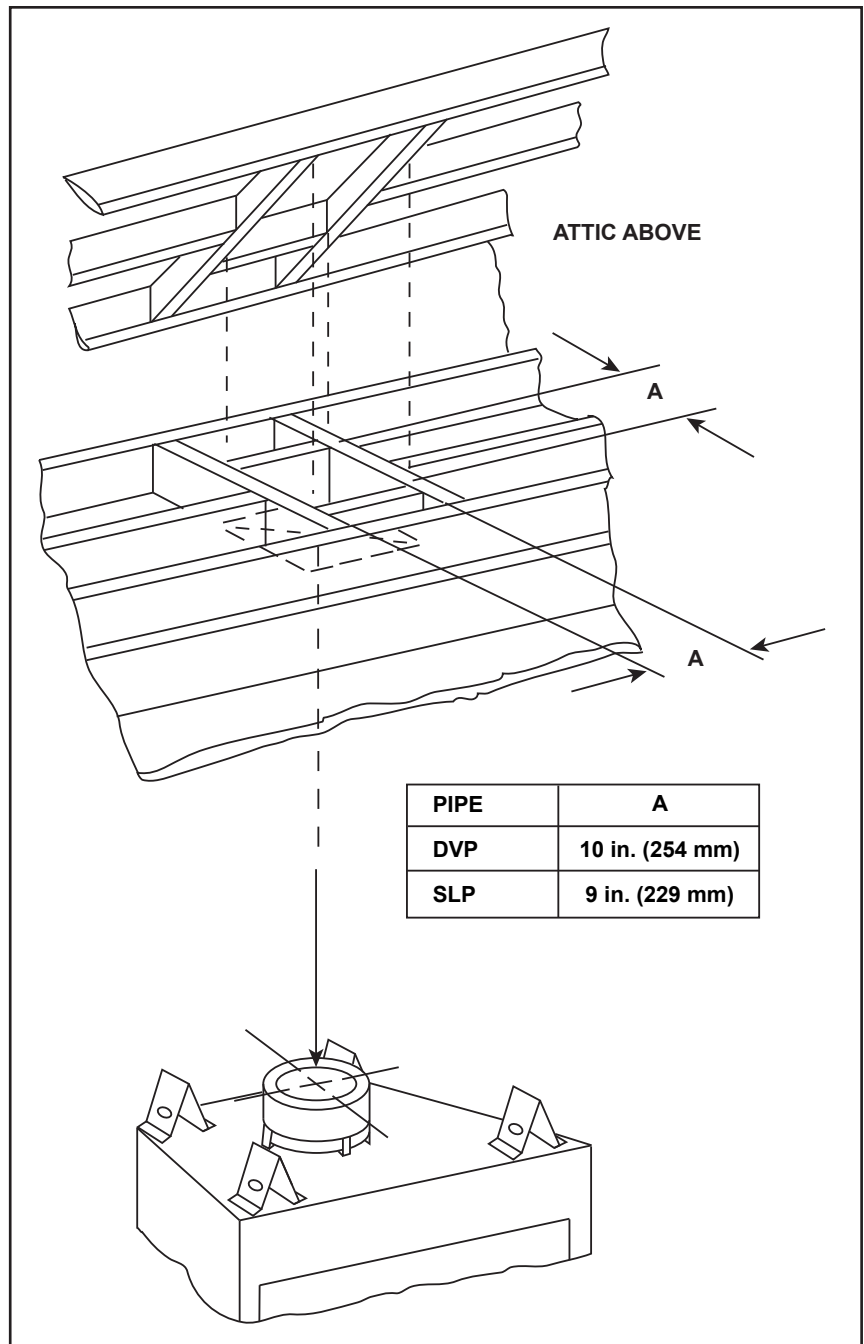

Figure 5.3 Installing Ceiling Firestop - Generic Appliance Shown
- **DVP pipe only** - Frame an opening 10 in. by 10 in. (254 mm by 254 mm) whenever the vent penetrates a ceiling/floor (see Figure 5.3).
- **SLP pipe only** - Frame opening 9 in. x 9 in. (229 mm x 229 mm) whenever the vent penetrates a ceiling/floor. See Figure 5.3.